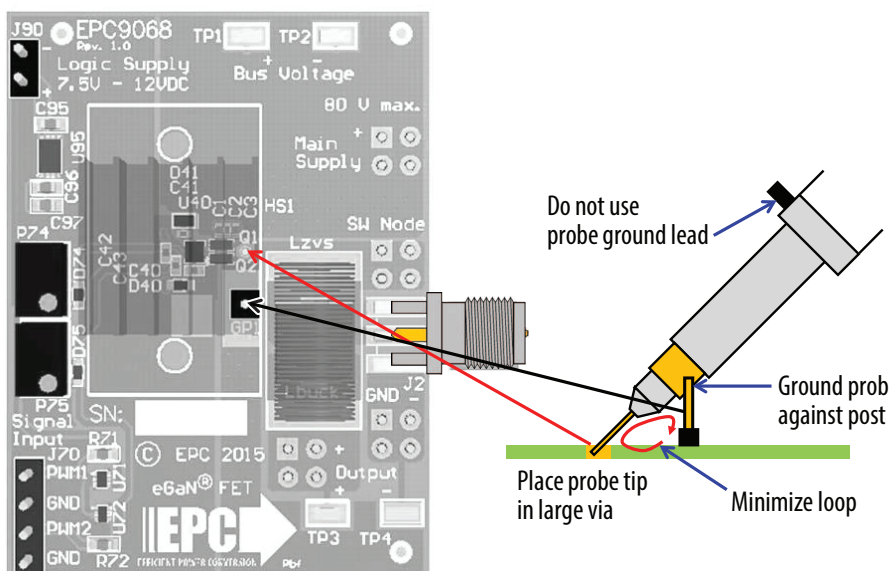

Figure 3: Proper measurement of the switch node
**NOTE.** When measuring the high frequency content switch node, care must be taken to avoid long ground leads. Measure the switch node by placing the oscilloscope probe tip through the large via on the switch node (designed for this purpose) and grounding the probe directly across the GND terminal provided. See figure 3 for proper scope probe technique.